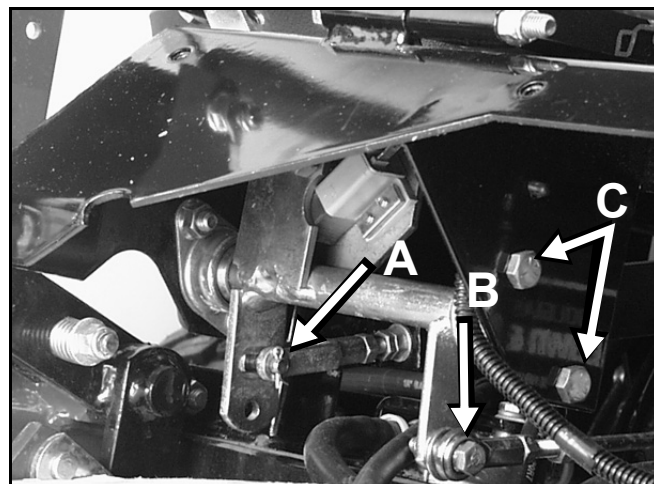

Figure 73
4. Remove the pin from the clevis on the control lever centering rod (Figure 73).
5. Remove the control link from the bell crank (Figure 73).
7. Remove the bolts securing the bell crank inside bearing (Figure 73).